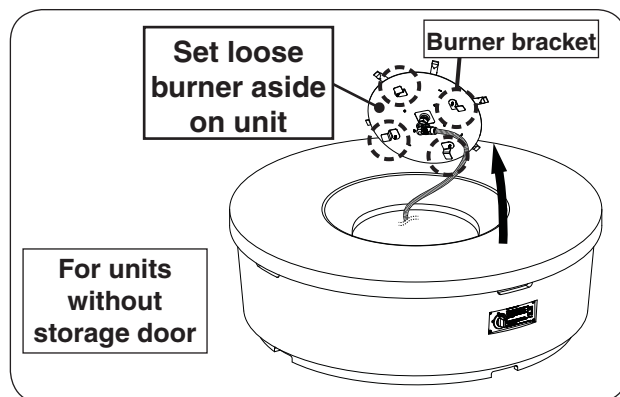

Fig. 20-2 Remove burner assembly (if needed)
1. Use a  $5/16$ " nut driver to partially unfasten the four screws found on the burner assembly. Then carefully remove the burner and set it off to the side. See Fig. 20-2.
Remove the storage door by first turning the door handle counter-clockwise, then carefully pulling the door outward (see Fig. 20-2). Store in a safe location.